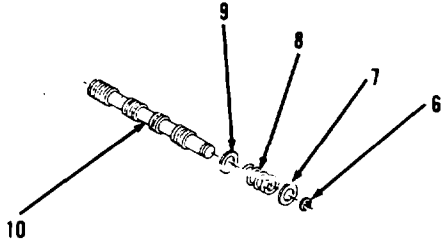

Figure 14-103.
- 6. Compress spring (8) on spool (10) and using pliers, remove lock ring (6, Figure 14-103).
- 7. Remove washer (7), spring (8) and washer (9) from spool (10).